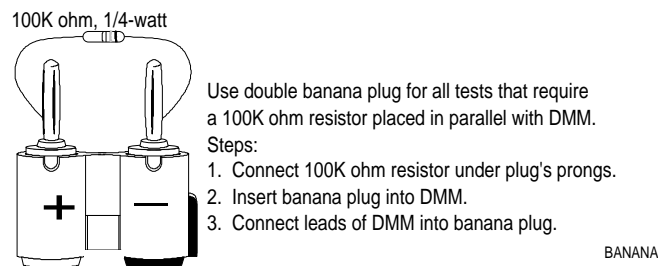

Figure 5: Double Banana Plug Used with 100K ohm Resistor
- Double banana plug (optional; shown in Figure 5; available from local electronics store or ITT Pomona Stock No. 34F856 or 34F845, for earth ground voltage tests)